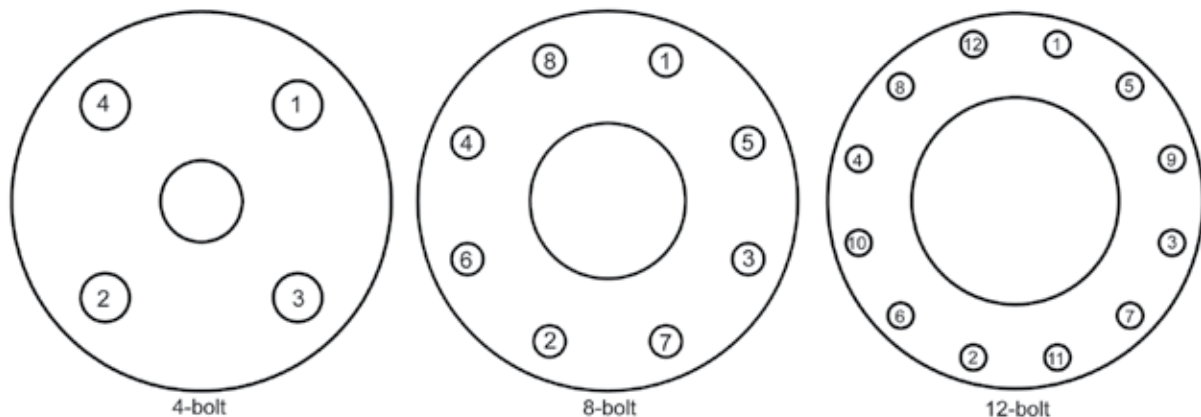

Figure 5. Flange Bolt Tightening Sequence
4. Place the remaining studs between the pipe flanges. Tighten the nuts in the sequence shown in Figure 5. Check for leaks after tightening the flange bolts.
3. Install bolts in both process connections. Tighten the nuts in the sequence shown in Figure 5. Check for leaks after tightening the flange bolts.